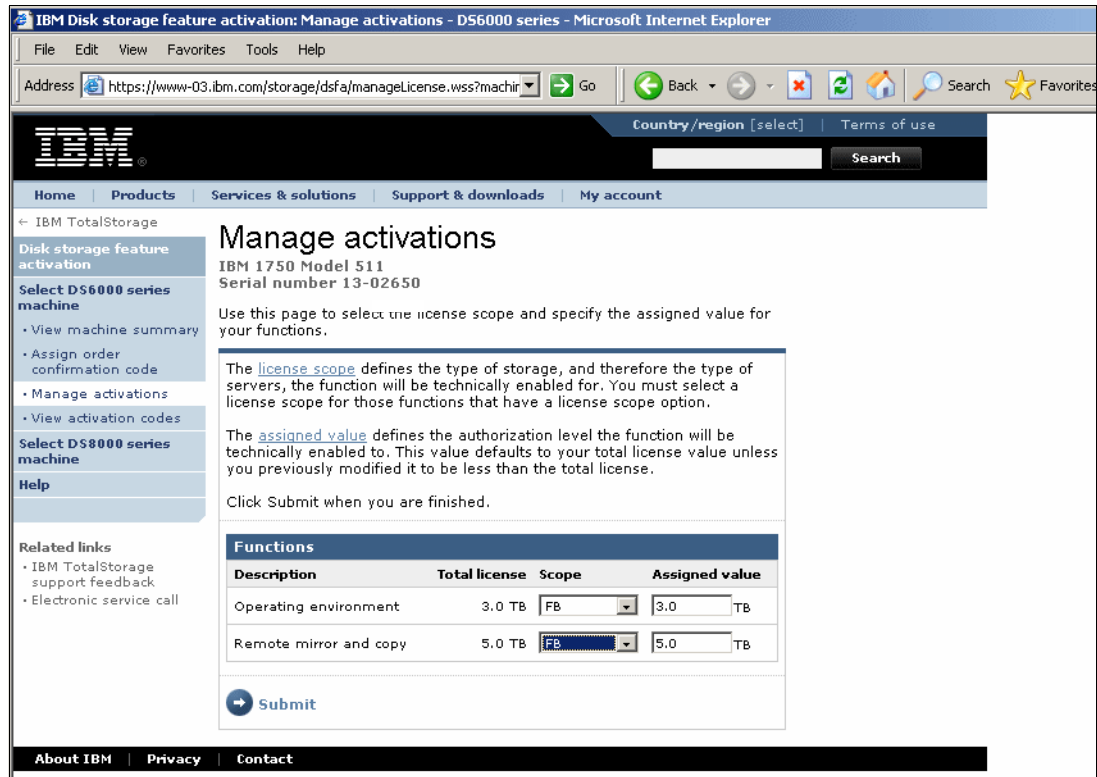

Figure 8-7 Manage activations window
- When you finish entering OCCs, you should proceed to the Manage Activations window, as shown in Figure 8-7. From here you can select whether to assign Licensed functions to either FB (open systems) or CKD (System z). In some cases, you will not have any alternative in that it will only allow FB or only allow CKD.
For the Point in Time Copy (PTC) function, and the Remote Mirror and Copy (RMC) function, you have the ability to set the scope of these functions to be FB, CKD, or ALL. After inputting the OCC to activate these functions, you then need to decide what scope to set, as shown in Figure 8-7 on page 151. In that example, the machine has 5 TB of RMC and the user has currently decided to set the scope to FB. This means that they will not be able to use RMC with any CKD volumes that they later configure. However, you can return to the DSFA Web site at any time and change the scope from CKD or FB to All, or from All to either CKD or FB. In every case, a new activation code will be generated that you can download and apply.